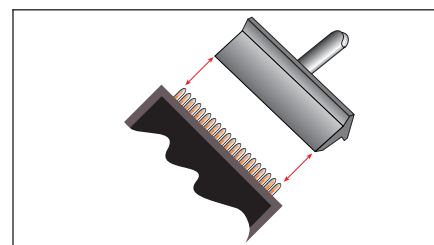

Figure 1 Choose Tip
1. Choose the size of blade tip that best fits a single row of lands. (See Figure 1.)